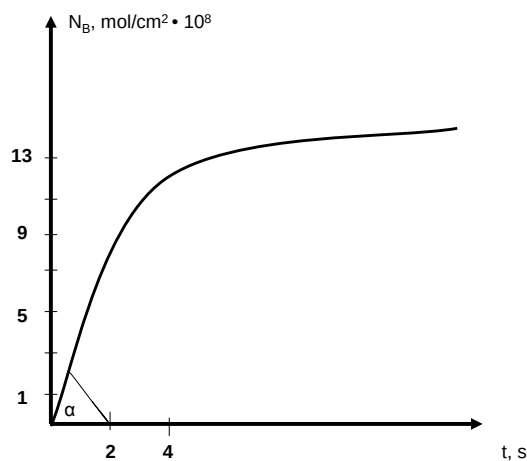

Figure 1a. The amount of the product N_B as a function of time
- a) The dependence of the amount of B produced at 1 cm^2 of a catalytic surface upon time is given in Fig. 1a. There are 10^{15} catalytic sites in 1 cm^2 of the surface. Estimate *TOF*.